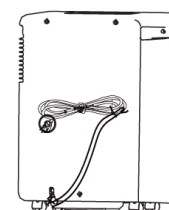

Fig. 20
- Unplug the power cord and bundle it using the cable tie (Fig. 20).